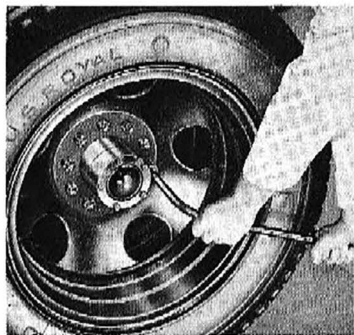

Fig. 50—Tightening Wheel Nuts
**Care.** Keep the wheel to hub or axle flange bolt nuts securely tightened (fig. 50). In case the hub flange or wheel disc should become coated with oil or grease the wheel should be removed and all grease